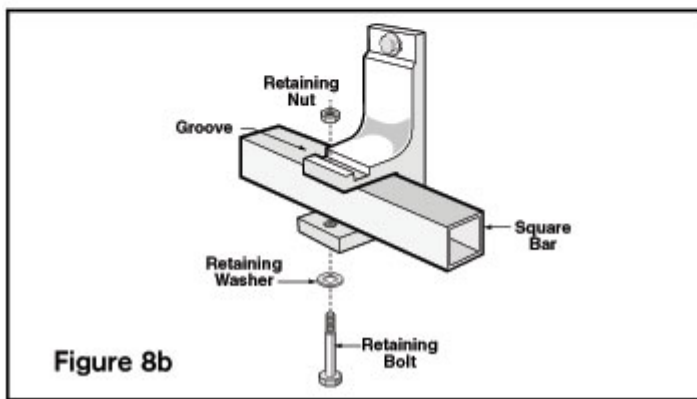

Figure 8b
19. Push the square bar into the brackets and secure with a retaining bolt in each bracket. Be sure to insert the bolt from the bottom of the bracket up. You might need to apply pressure on the square bar to permit insertion-- see Figure 8b.